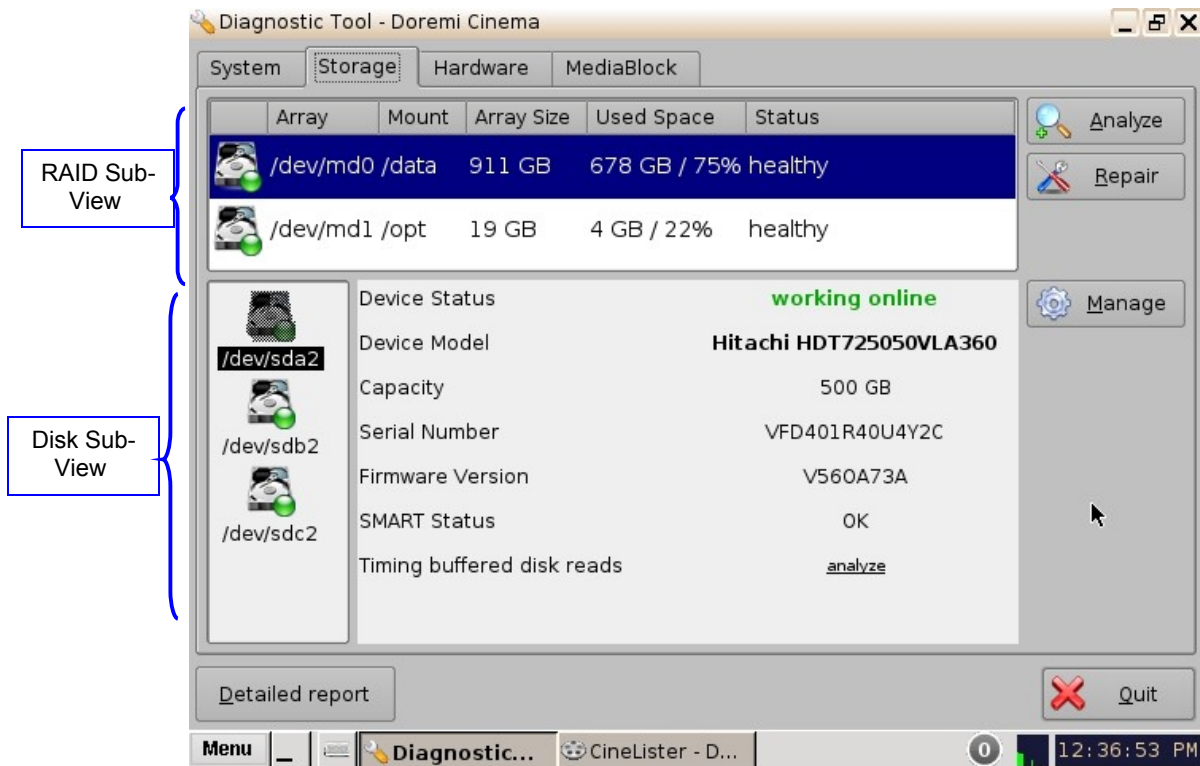

Figure 8: Storage Tab Window
- The Storage tab consists of two sub-views: RAID Sub-View and Disk Sub-View (Figure 8).